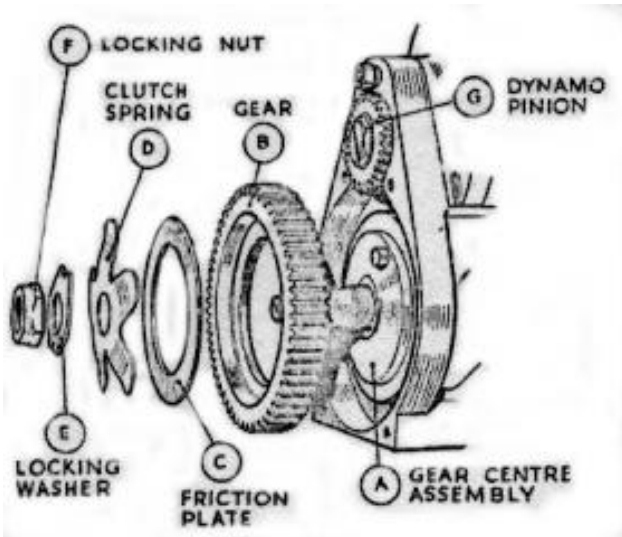
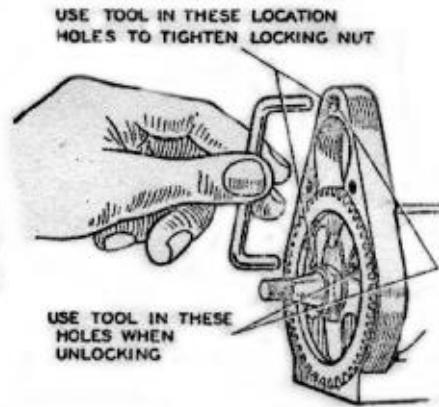
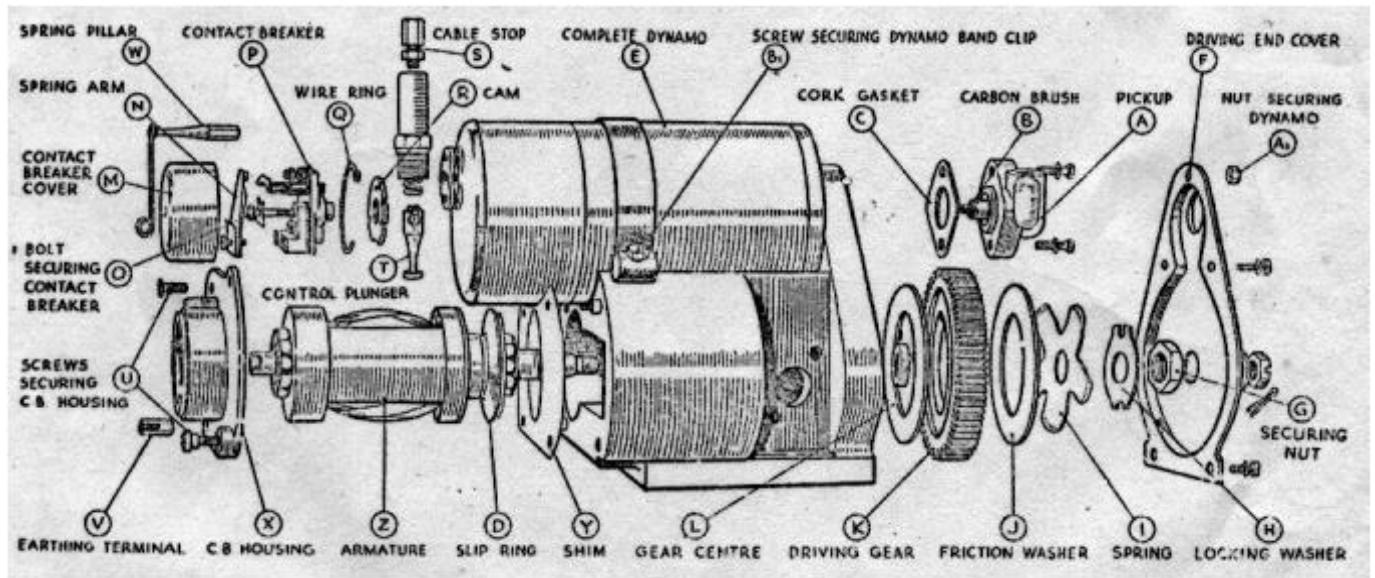

Fig. 49. Exploded view of components of the Slipping clutch.
Fig. 50. Slipping clutch showing the jig to lock the large gear.
Fig. 51. Exploded view of magneto portion of dynamo.
Examine the pick-up or high tension terminal (A, Fig. 51). See that the carbon brush (B) moves freely in its holder, being careful not to stretch the brush spring unduly. While the pick-up is removed, clean the slip ring track and flanges (D) by holding a soft cloth on the ring while the engine is slowly turned by means of the kickstart. When replacing the pick-up, do not forget to fit the cork gasket (C).
A (9) Magneto Slipping Clutch (see Fig. 49).
Remove the dynamo (E, Fig. 51) and take off the driving end cover (F) by unscrewing the four countersunk head screws. To dismantle the slipping clutch it will be necessary to use a jig (Fig. 50) to hold the larger gear whilst the securing nut is being undone. This consists simply of a length of $\frac{1}{4}$ " diameter mild steel rod bent to a flat U, the ends being cut short with their centres $3\frac{3}{16}$ " apart, so that one can be slipped in the hole in the wheel while the other is engaged with the hole in the top of the casting through which the dynamo securing stud usually goes. The $\frac{7}{16}$ " box spanner can then be used on the securing nut (G, Fig. 51) which unscrews in the normal left-hand direction. Note that the tab of the locking washer (H) must be bent back first. Remove the locking washer (H), clutch spring (I), friction washer (J), driving gear (K) and gear centre (L).
the screws (U, Fig. 51), earthing terminal (V), and pillar (W) from the contact breaker end plate (X) and remove the plate from the magdyno, together with shims (Y). The armature (Z) can then be drawn out of the machine. There is no need to put a keeper
If test apparatus is not available, a rough check of the armature windings can be made by means of a two volt battery (a tapping across one cell of the motor cycle battery), and an ammeter. Screw the contact breaker retaining screw (O, Fig. 51) into the end of the armature shaft. Connect one terminal of the battery, with the ammeter in series, to the screw. Connect the other battery terminal to the metal body of the armature. The ammeter will then record the current taken by the primary winding – this should be approximately four amperes. To check the secondary winding of the armature, wrap the bared end of a length of H.T. cable round the brass insert of the slip ring and hold the other about one-eighth from the armature core. If the lead from the battery which was connected to the core is then flashed quickly on and off the core, a spark should occur between the H.T. cable and the core.
Key the gear centre (A, Fig. 49) on to the spindle, replace the driving gear (B), friction washer (C), clutch spring (D), locking washer (E) and secure by tightening the fixing nut (F). The U shaped jig (Fig. 50) must be used to prevent rotation of the shaft while tightening the nut. After assembling, the setting of the clutch must be checked. This can easily be done by locking the driving gear and applying a
After setting, by slackening or tightening the securing nut (F, Fig 49) prevent further movement by bending up the tab of the lock washer (E). Refit the dynamo and pack the gears with high melting point grease. Secure the drive end cover in position with the gasket
Take off the connections from the dynamo terminals, unscrew the hexagon headed nut (A1, Fig 51) from the driving end cover of the magdyno, slacken the two screws (B1, Fig 51) securing the band clip and draw the dynamo out of its mounting.